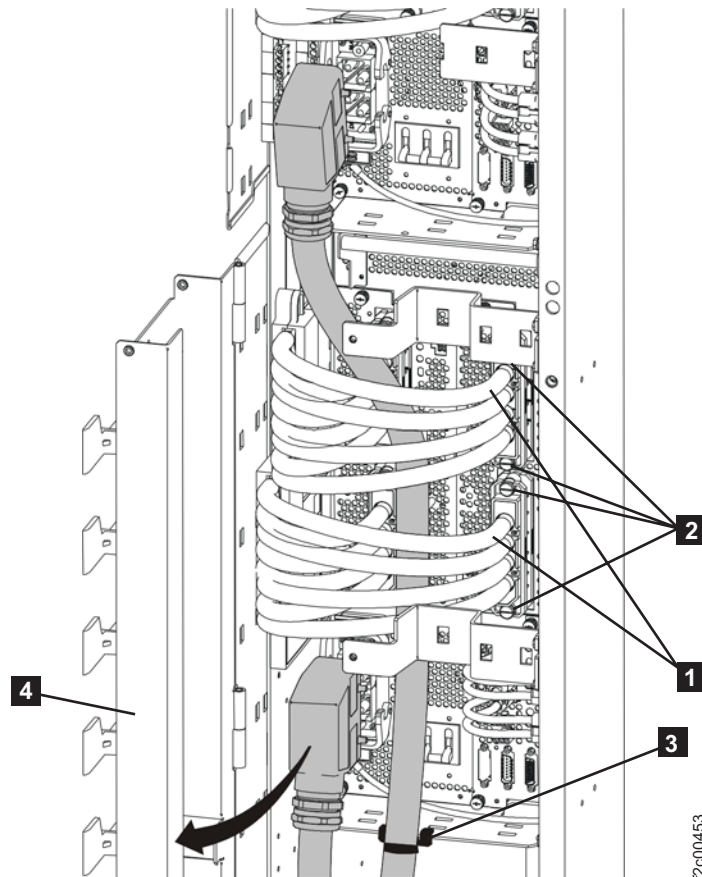

Figure 70. Routing the mainline power cables
3. Ensure the 208VDC bus bar gate **4** is in the open position. Refer to Figure 70 on page 85.
4. Route and connect the mainline power cables. Refer to Figure 70 on page 85 to complete the following steps: